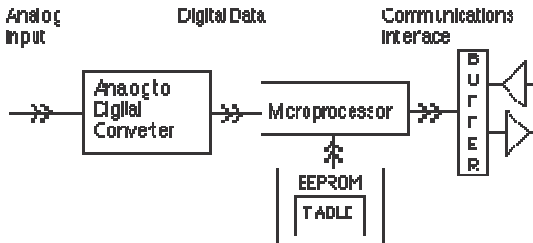

Figure 3. D2000 Series Block Diagram
Figure 3 is a simplified block diagram of the D2000, showing only the portions related to re-scaling. The μ P reads the raw Analog-to-Digital Converter (ADC) data after every conversion. The μ P takes the raw ADC data and looks it up in a table held in EEPROM. The table contains entries which map the raw ADC data to user-defined output data values scaled in engineering units. If an exact match is not found, the data is interpolated between the two closest table entries. The resulting data in engineering units is stored in a memory buffer where it may be read by the Read Data (RD) or New Data (ND) Commands.